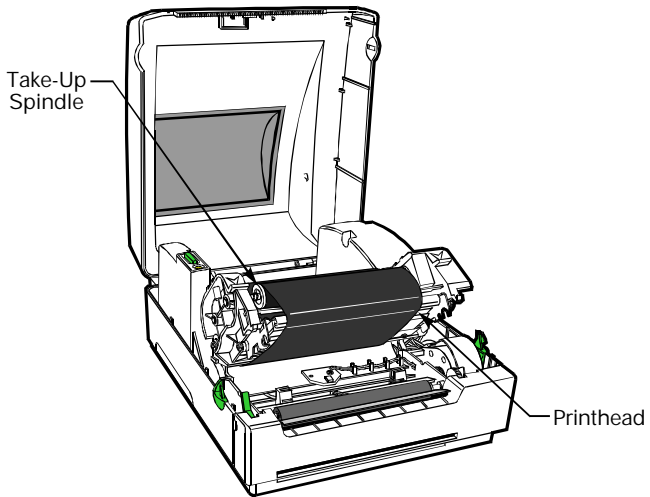

Figure 28
8. Wrap the ribbon leader around the printhead (refer to Figure 28). Then, affix the ribbon leader to the ribbon take-up spindle with tape.